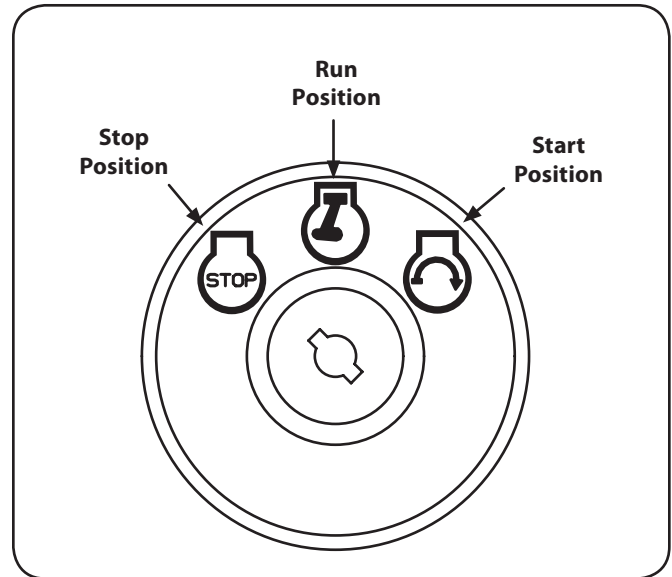

Figure 5-1
5. Turn the ignition key clockwise to the START position. After the engine starts, release the key. It will return to the RUN position. See Figure 5-1.